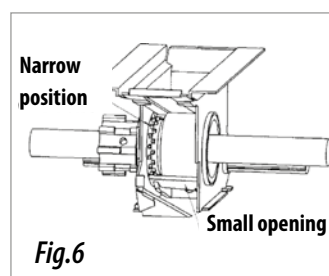

Fig.6
- Narrow cog with small teeth for small seed (fig. 6).
- To adjust the lower seed dispenser opening according to the grain size (figs. 6, 7 and 8).